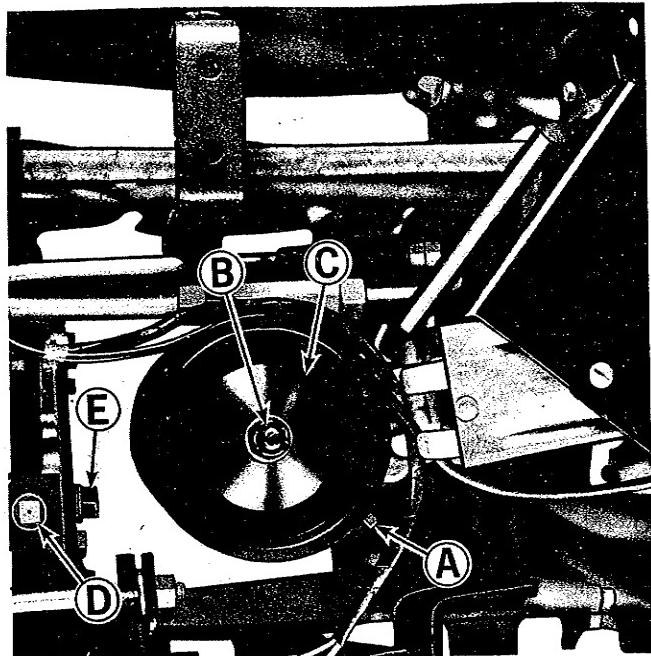

Figure 28. Hydrostatic transmission fluid reservoir and bevel gear housing located under seat deck.
CHECK TRANSMISSION OIL (FLUID) LEVEL: See figure 28. The reservoir for the hydrostatic transmission oil must be kept filled to the bottom threads of check plug (A). To check the reservoir oil level remove plug (A). If oil is not up to the bottom threads of the hole, add Dexron automatic transmission oil. Adding transmission oil will be easier by removing nut (B) and reservoir cover (C). Clean cover (C) carefully before removing it to prevent dirt or foreign materials from contaminating the oil in the reservoir. After filling the reservoir to the level of check plug (A), replace check plug (A) cover (C), and nut (B), and tighten securely.
CHECK BEVEL GEAR BOX OIL LEVEL: See figure 28. The bevel gear box fill plug is located at (D). The gear box is properly filled when SAE 90 weight transmission oil is added until it touches the end of the fill plug